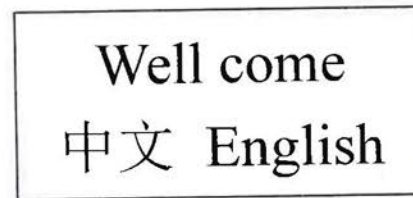

Figure 5
- ii. Turn on the power switch, enter standby state, the instrument display both Chinese and English character. Screen shown in figure 5.